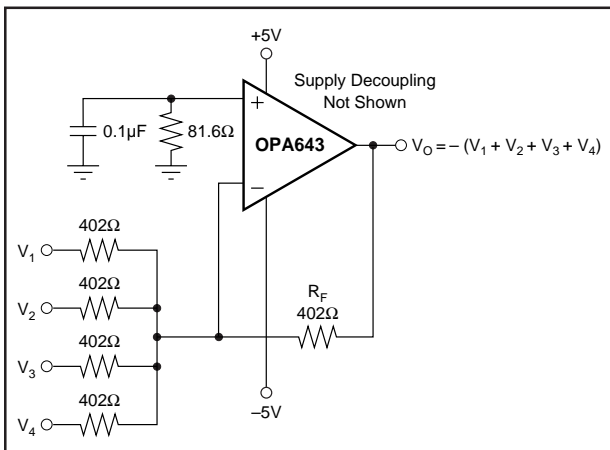

FIGURE 4. Wideband Inverting Summing Amplifier.
One common application for a wideband op amp like the OPA643 is to sum a number of signal sources together. Figure 4 shows the inverting summing configuration that is most often used. This circuit offers the benefit that each input sees an input impedance set only by its individual input resistor, since the summing junction (inverting op amp node) is a virtual ground. Each input is non-interactive with every other. However, the bandwidth from any input to the summed output is set by the op amp noise gain (NG), equal to the non-inverting voltage gain. So, even though each inverting channel may have a low gain to the output (like the -1 shown in Figure 4), the overall noise gain will set the frequency response and the loop stability. The non-inverting gain for Figure 4 is equal to $+5$ which will give a 200MHz bandwidth at a gain of -1 for each of the input signals.